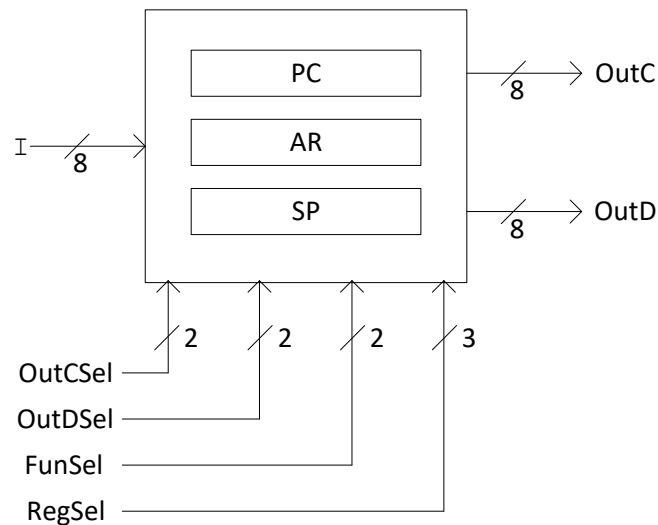

Figure 8: 8-bit address registers, inputs, and outputs
(Part-2b) Design the **address register file (ARF)** system shown in Figure 8 which consists of three 8-bit address registers: **program counter (PC)**, **address register (AR)**, and **stack pointer (SP)**. FunSel and RegSel works as in **Part-2a**.